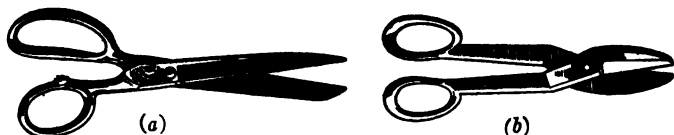

FIG. 88.—(a) Paper shears. (b) Tinner's shears.
2. Fig. 88 *a* represents a pair of paper shears, 88 *b* a pair of tinner's shears. Which has the greater mechanical advantage? Why? Explain why each has the most effective shape for its particular work.